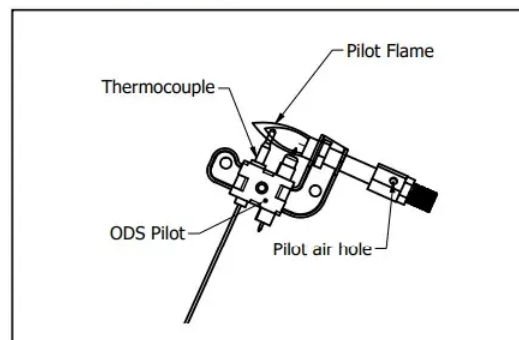

Fig. 5 - Pilot Assembly
Always keep the heater area clear and free from combustible materials, gasoline and other flammable vapors and liquids. Keep the vent areas (slots in the bottom and the top at the front of heater) clear at all times so combustion air and ventilation is not obstructed. Visually inspect the pilot flame and burner periodically during use so combustion air and ventilation is not obstructed. The pilot flame should be blue in color (not yellow) and will extend beyond the thermocouple. The flame will surround the thermocouple just below the tip, see Figure 5. A slight yellow flame may occur where the pilot flame and main burner flame meet. The burner(s) should be bright orange (with a slight blue color around the border, a red-orange haze that is visible on the burner is acceptable) and without a noticeable flame. A blue flame that rolls out at the top indicates an accumulation of dust, lint or spider webs inside the main burner assembly. If the pilot is yellow or the burner has a noticeable flame, cleaning may be required. Use the following procedure to inspect main burner assembly. It is necessary to periodically check the burner(s) orifice and burner venturi tube to make sure they are clear of insects/nests or spider webs that may accumulate over time. It is strongly recommended that these maintenance instructions be performed annually. A clogged tube can lead to a fire.
6. Inspect and clean pilot (mounted to bracket) by using a vacuum or apply air pressure through the holes in the pilot indicated by the arrows in Figure 5. **WARNING:** Never use needles, wires, or similar cylindrical objects to clean the pilot to avoid damaging the calibrated orifice that controls the gas flow.